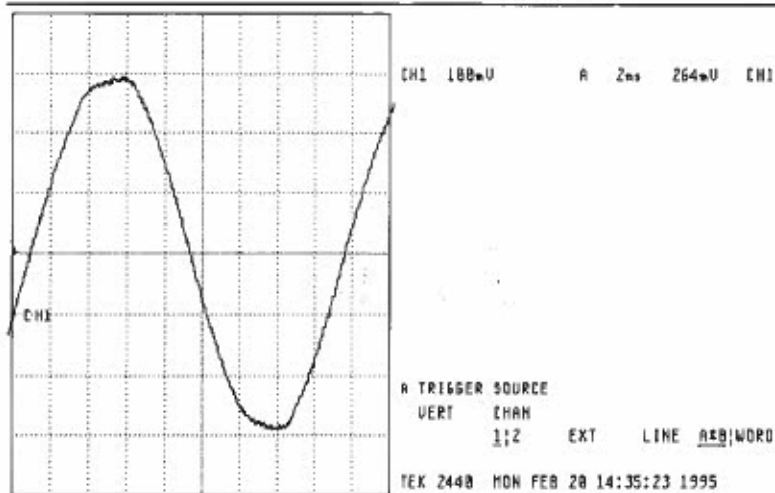
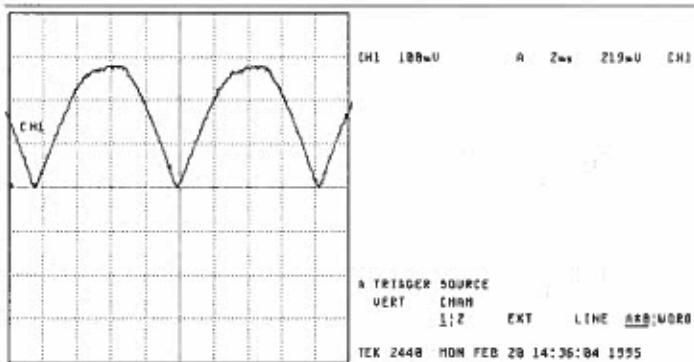

Figure 1
Figure 2
- n. Install the 1K-ohm resistor between SC9 and SC10. Connect 21VAC using the isolation transformer and variac to JG5 and JG6. With both AC and DC power on observe SC17 and SC25 with differential scope and 100X probes. With SW1 and SW2 at the NREC position, observe the output as in FIGURE 1. With SW1 and SW2 at the REC position observe the output as in FIGURE 2.